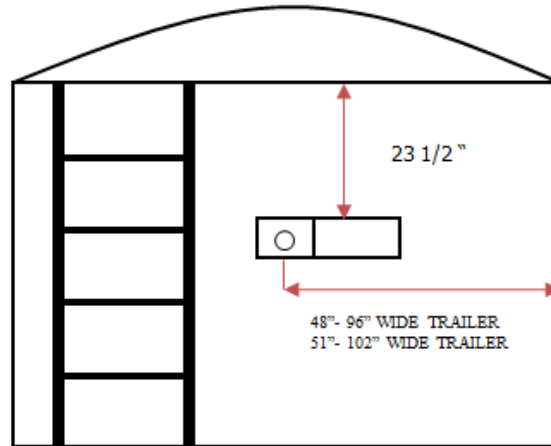

Figure 2
1. On the FRONT & REAR of the trailer measure from the top of the trailer, straight down approximately 23 1/2" and put a mark on the front and rear face of the trailer (If this interferes with the catwalk the arm can be mounted higher.) This line should be as close to center as possible. Refer to the figure 2 below.